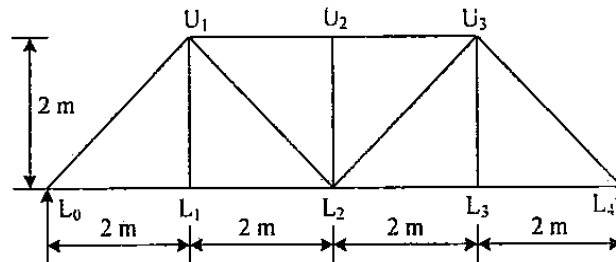

Fig. 6
- (b) Draw the influence line diagram for the members U_1 U_2 , L_1 L_2 and U_1 L_1 of a truss as shown in Fig. 6. [6]